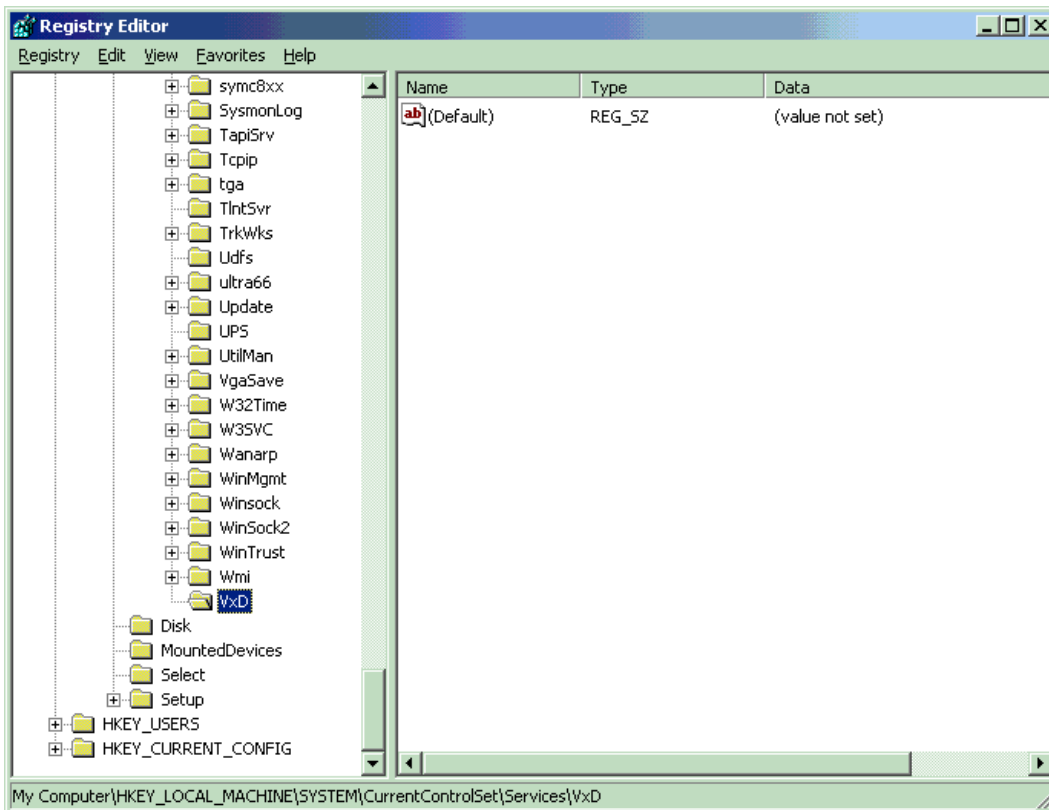

Figure 35: Windows'95 Registry Editor
- In the next step the driver will be included in the *registry-table* : Please use the program REGEDIT in the WINDOWS95 - directory. Please step through the registry key tree *HKEY_LOCAL_MACHINE/System/CurrentControlSet/Services* until you reach *VxD* (see *Figure 35*).